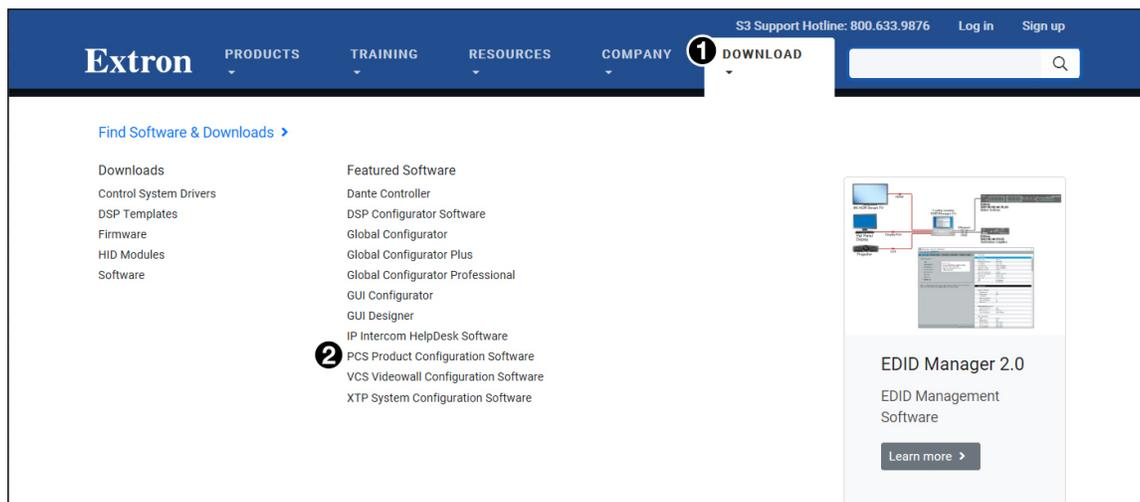

Figure 22. Software Links on the Download Page of the Extron Website
1. Open the Extron website and mouse over the **Download** tab (see figure 22, ①).
2. Click the **PCS Product Configuration Software** link (②).